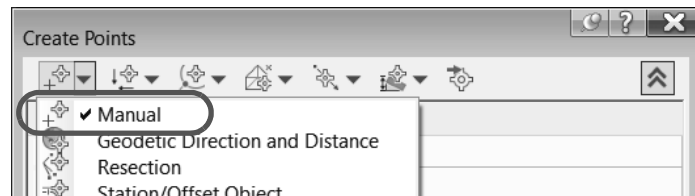

Figure 2–43
4. Select the **Manual** option in the miscellaneous group in the toolbar as shown in Figure 2–43.